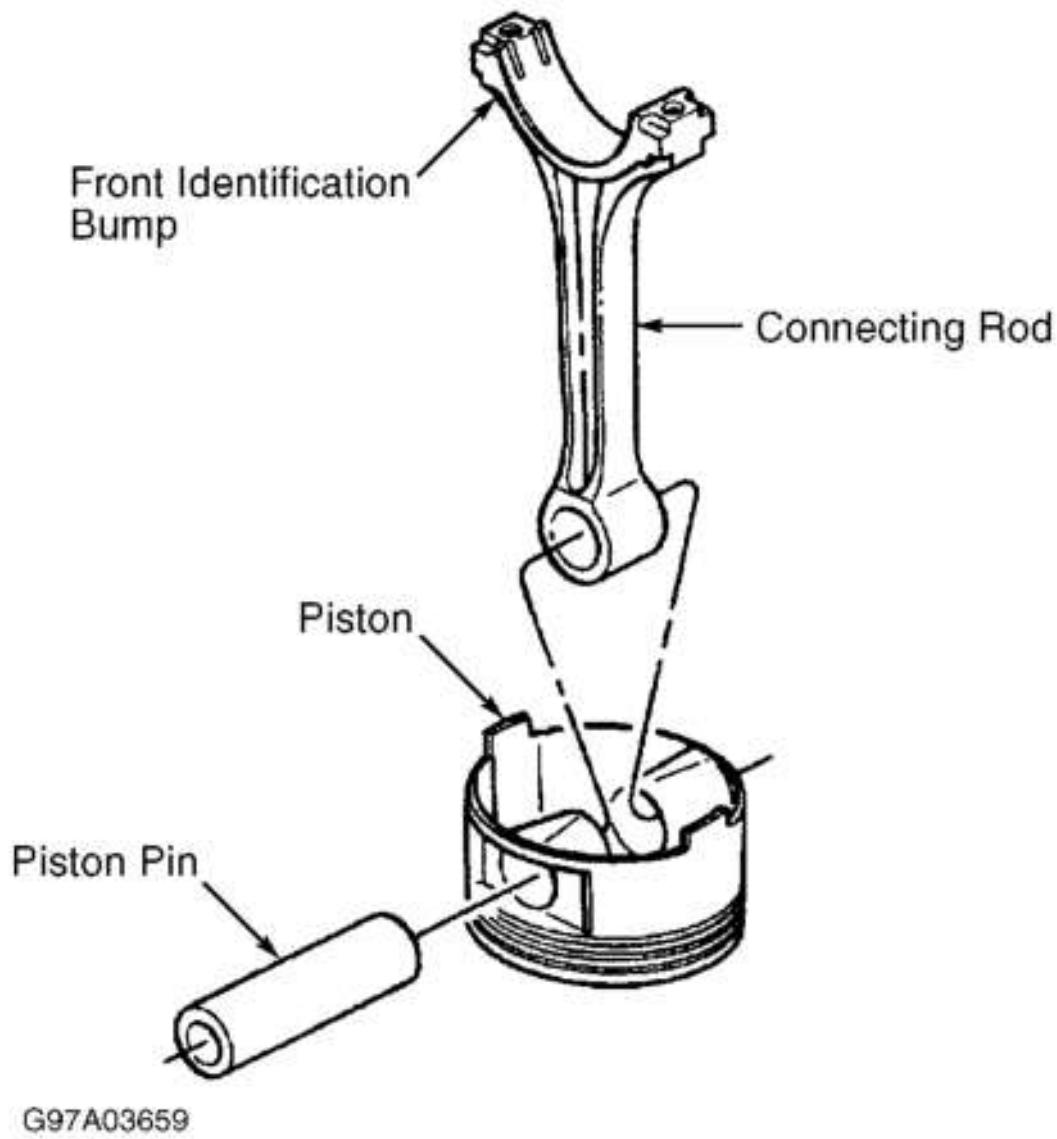

Fig. 89: Identifying Romeo Piston & Rod Assembly
Windsor engine uses a larger connecting rod has a full floating piston pin with 2 retainers. See Fig. 90. Romeo engine uses a press fit piston pin without retainers. See Fig. 89.
Note direction of connecting rod installation on piston. Install piston and connecting rod in engine, with notch on top of piston toward front of engine. See **Fig. 89** or **Fig. 90**.
1. Ensure piston and connecting rod are installed in engine with notch on top of piston toward front of engine. See **Fig. 89** or **Fig. 90** .